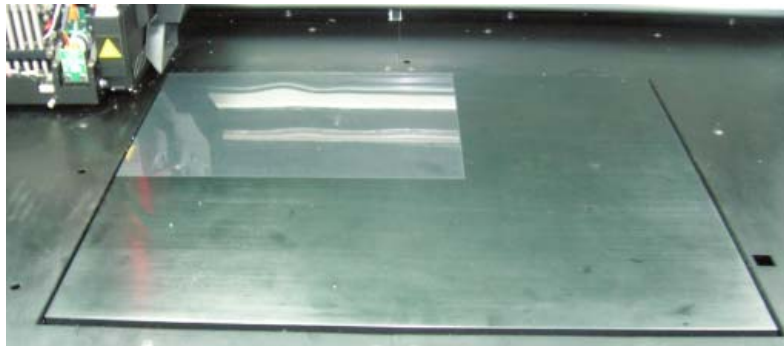

Figure 6-37: Positioning the transparency on the build tray
10. In the wizard screen shown in figure 6-37, select the *Transparency removed* check box, and click **Next**.